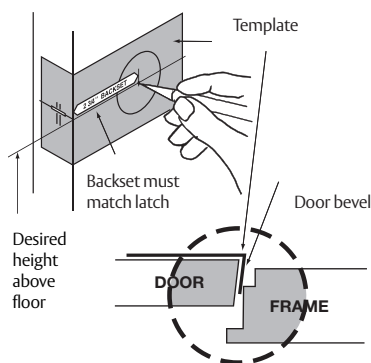

Figure 1
1. Use template provided to mark the door (Figure 1).